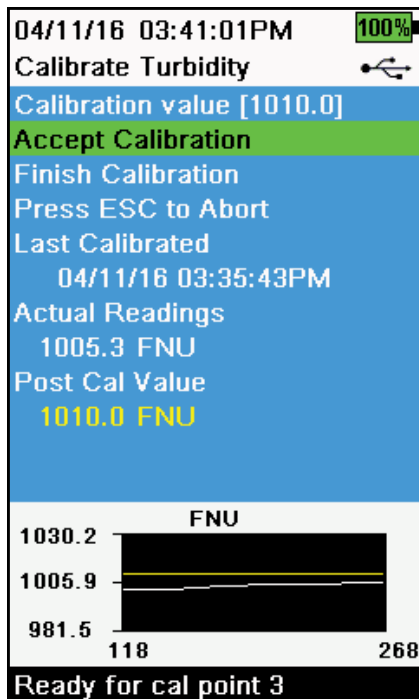

Figure 42 Calibrate Turbidity
10. Observe the actual measurement readings for stability (white line on graph shows no significant change for 40 seconds), then select **Accept Calibration** (Figure 42). "Ready for cal point 3" will be displayed in the message area.